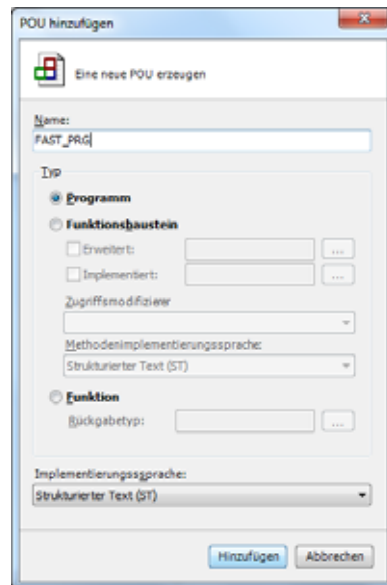

Figure 70: PLC and Task configuration
- ▶ Create the POUs „FAST_PRG“ as shown in Figure 70.